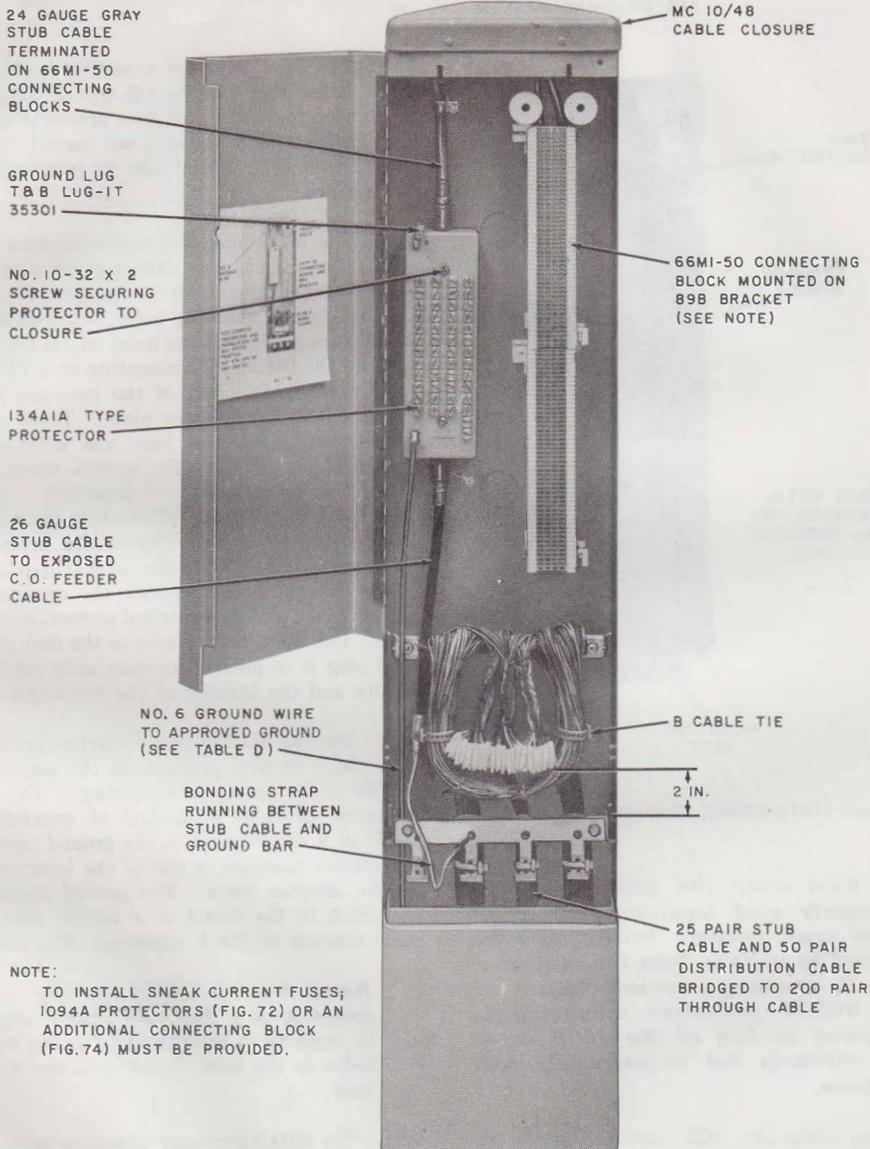

Fig. 17—134A1A-25 Protector Installed in Cable Closure
3.23 The 134-type protectors consist of a cast-resin block containing 2A1A protector units, a 26-gauge stub cable (to serve as a fusible link), a 24-gauge terminating stub cable, and two ground lugs. The protectors are available in 16-, 25-, 50- and 100-pair sizes (see Table C). Either of the ground lugs can be used for a protector ground, and a ground wire no smaller than a No. 6 should be used to ground the protectors (see Table B). The 134-type protectors can be installed in cable closures, cable terminal sections, or on B cable terminal frames. Fig. 17 shows a 134A1A-25 protector installation.